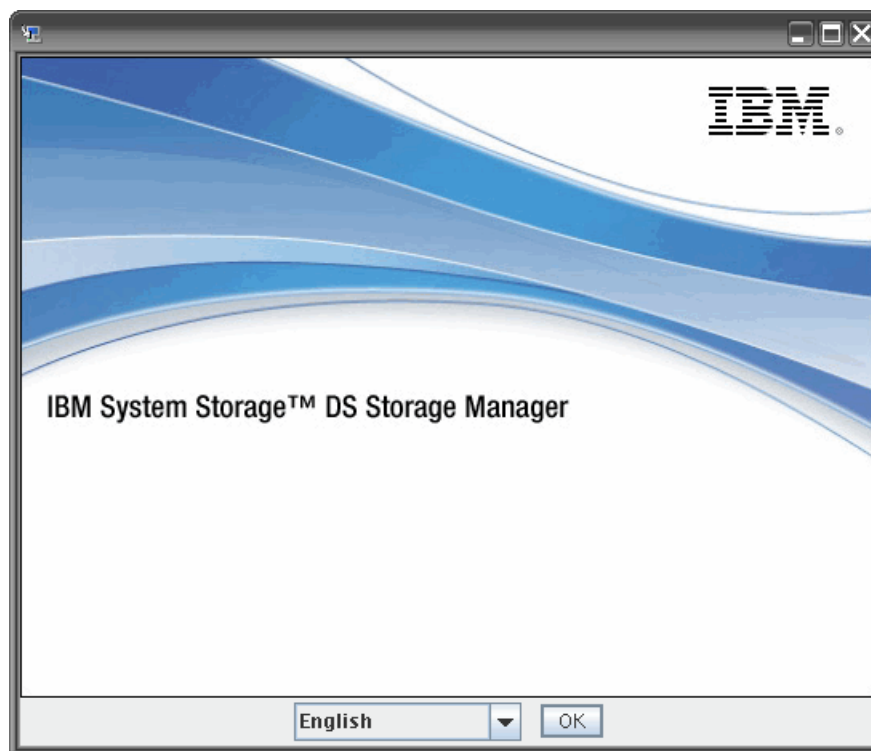

Figure 5-14 Select the language to display license agreement
3. A window will open. Select the language to display the license agreement and click **OK** as shown in Figure 5-14 on page 142.